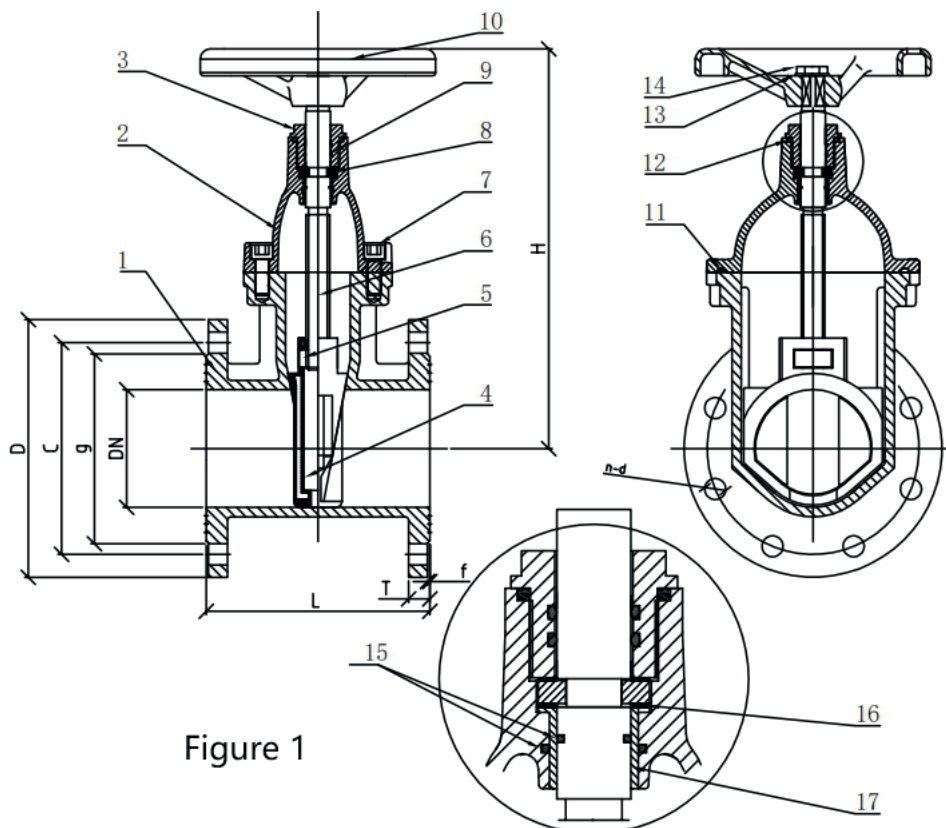

Figure 1
- The basic structure of the gate valve is shown in Figure 1